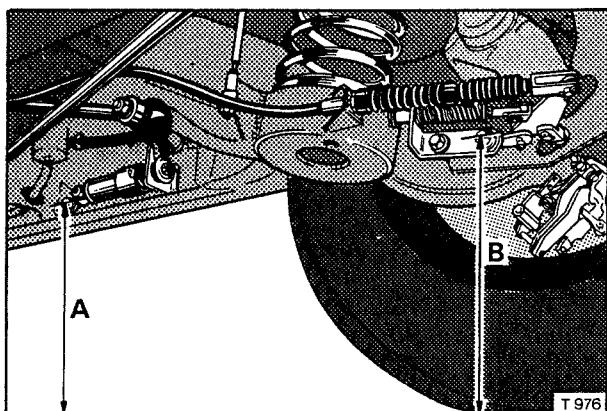

Fig. G25m Levelling height setting measurement positions
5. Measure the levelled height. The levelled height measurements are taken at the same points on the car as those for the rear standing height (see Fig. G25m). Calculate the levelled height by measuring the height 'A' from the level surface on which the car stands to the centre of the foremost bolt attaching the rear sub-frame mounting bracket to the body sill. Measure height 'B' from the level surface to the centre of the rearmost bolt attaching the parking brake linkage to the trailing arm. For the levelled height to be correct the dimension 'A' should be within a tolerance of between plus 6,35 mm. and minus 11,43 mm. (plus 0.250in. and minus 0.450in.) of the dimension at point 'B'. If the height of the car is outside of these tolerances the height control valve should be renewed.